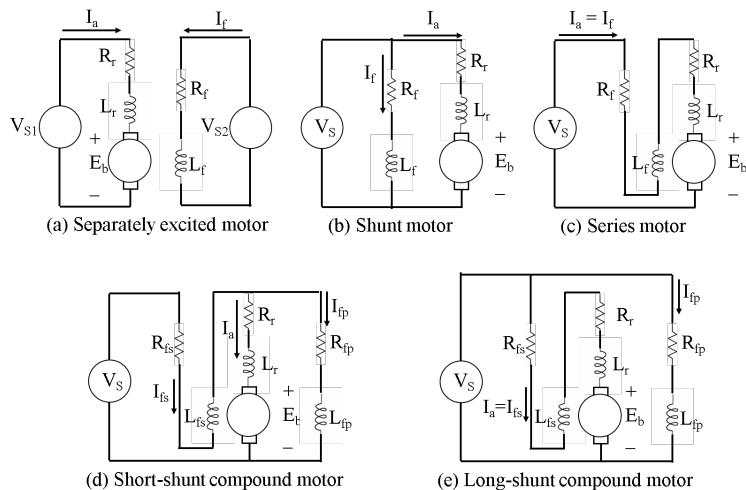

Figure 52: Types of wound-field DC motors
Depending on the way the stator is energized (Figure 52), the wound-field motors are classified into five types:
1. Separately excited motor (Figure 52 (a)),
2. Shunt motor (Figure 52 (b)),
3. Series motor (Figure 52 (c)),
- (a) Short-shunt compound motor (Figure 52 (d)), and
- (b) Long-shunt compound motor (Figure 52 (e)).